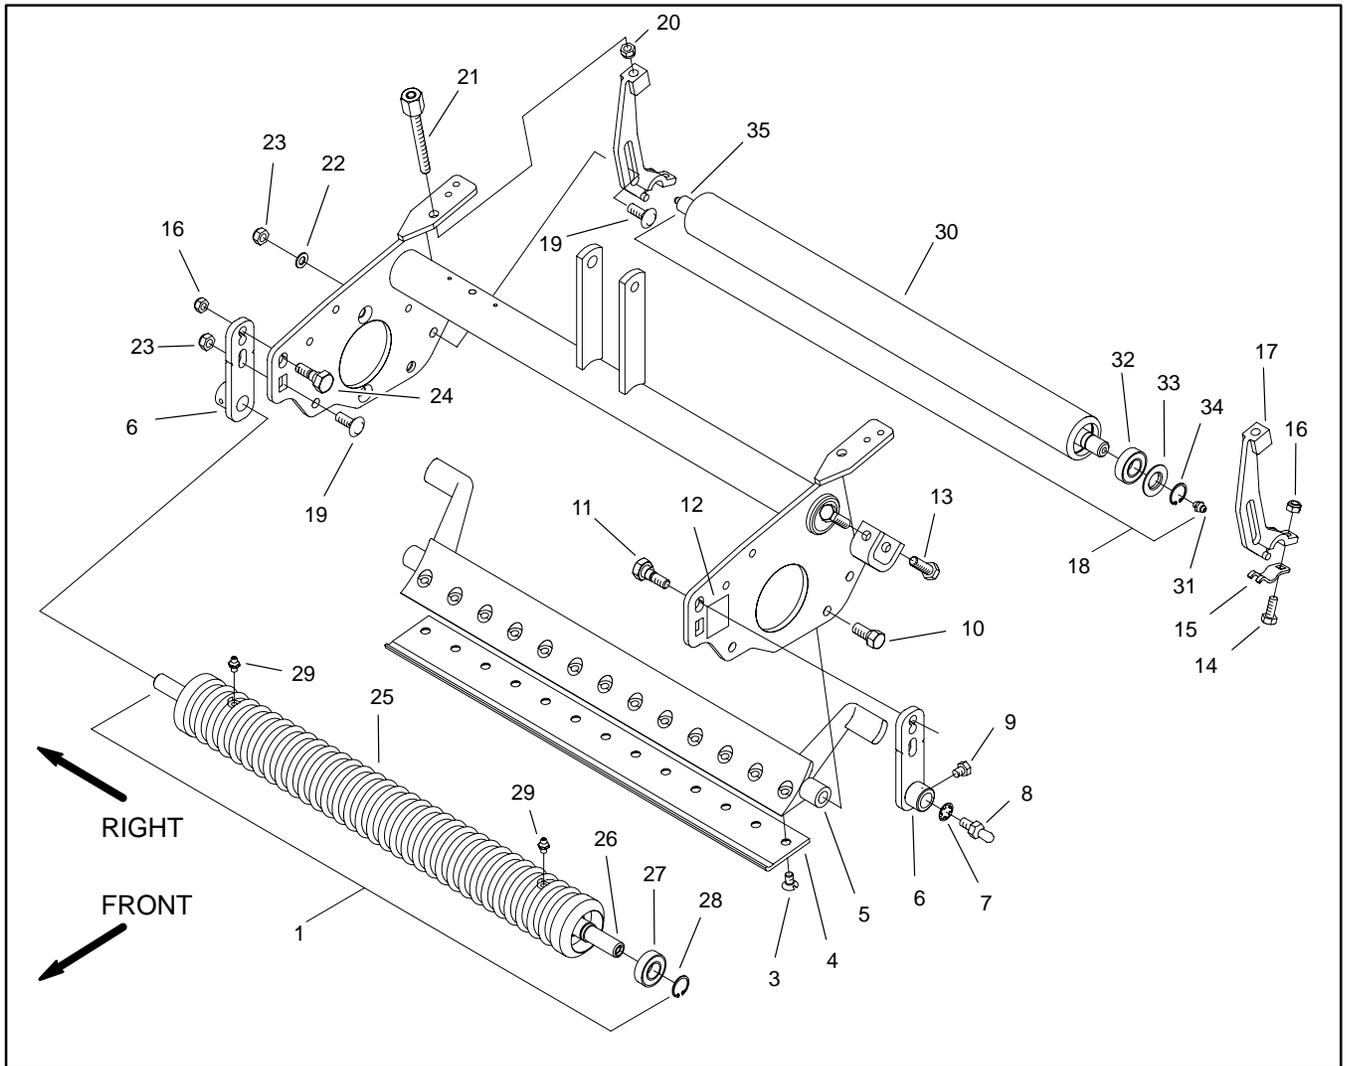
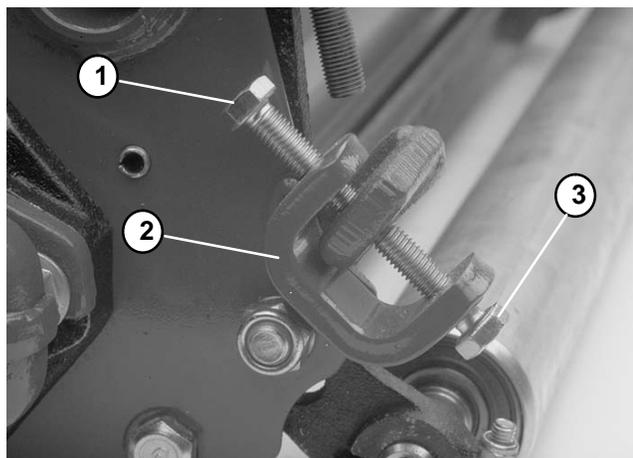

Figure 51
Figure 52
Note: The top hex head screws should remain in the adjustment brackets. This will allow for an easier adjustment of the bedbar when it is reinstalled (Fig. 52).
3. Remove bottom hex head screw from each bedbar adjustment bracket located on both sides of the frame (Fig. 52).
4. Remove both wheel bolts (10) from each end of the bedbar (5) and frame (Fig. 51).
5. Remove bedbar (5) from the cutting unit (Fig. 51).
1. Apply antiseize lubricant to the threads of both wheel bolts (10) (Fig. 51).
2. Position bedbar (5) to the cutting unit. Insert wheel bolts (10) through the frame and screw into the bedbar (Fig. 51).
3. Torque both wheel bolts (10) from 20 to 40 ft-lbs (27 to 54 N-m).
4. Start bottom hex head screws into the bottom of the adjustment brackets. Keep bedknife away from the reel while running up both screws to contact the bedbar ears (Fig. 52).